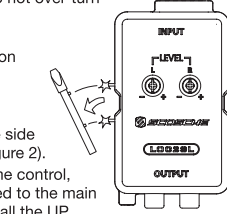

FIGURE 2
1. Carefully break away the screwdriver tool from the side of the **LOC2SL** case (Figure 2).